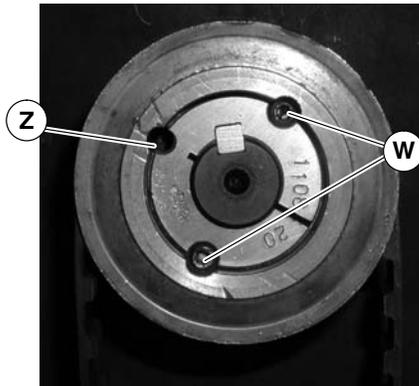
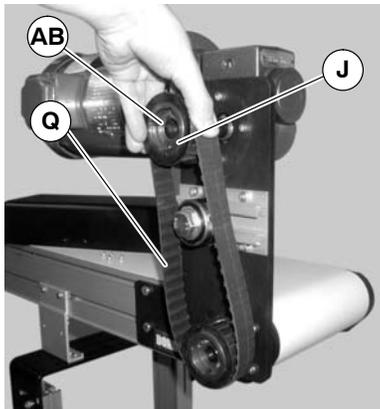

Figure 16
Figure 17
**NOTE:** If drive pulley (J of Figure 17) is replaced, wrap timing belt around drive pulley and complete step 3.
4. Loosen taper-lock screws (W of Figure 16) and remove drive pulley: Insert one (1) of taper lock screws (W) in remaining hole (Z). Tighten screw (W) until pulley is loose. Remove pulley (J of Figure 17), taper hub assembly (AB), and timing belt (Q)
**NOTE:** Drive pulley (J of Figure 17) is removed. Wrap timing belt around drive pulley and complete step 12.